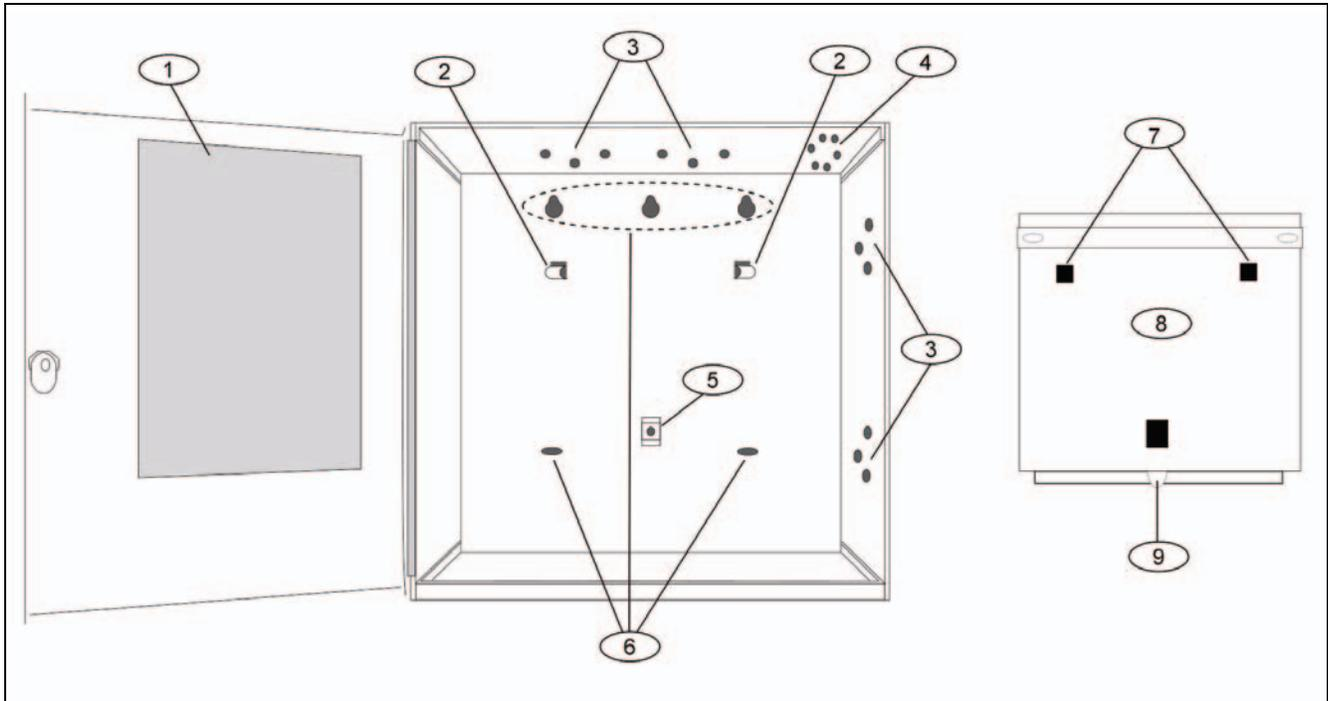

Figure 1.1 Enclosure Mounting
2. Mount the enclosure in the desired location. Use all five enclosure mounting holes. Refer to *Figure 1.1, Page 5*.
1. Place the control panel over the inside back of the enclosure, aligning the large rectangular openings of the mounting skirt with the mounting hooks of the enclosure. Slide the control panel down so that it hangs on the hooks. Refer to *Figure 1.1, Page 5*.